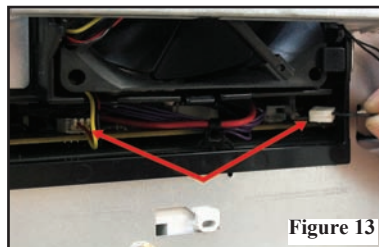

Figure 13 - Red arrows indicate the two cables underneath the connector access cover.
9. Locate and unplug the two cables underneath the connector access cover that are connected to the power supply, just below the main fan (Figure 13, arrows).